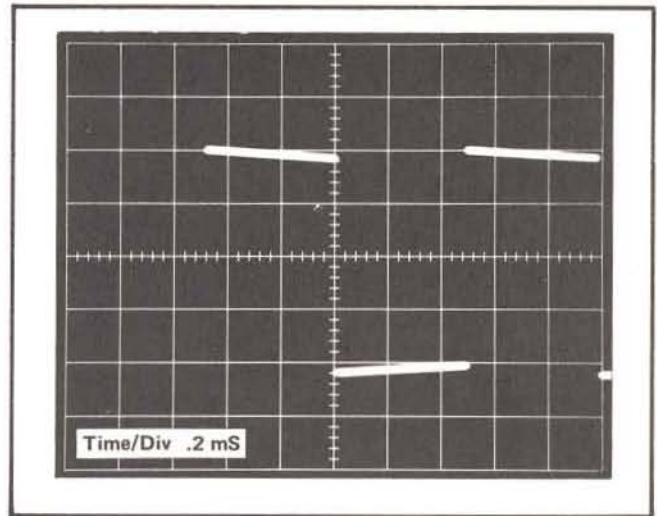

Fig. 5-5. LF Comp correctly adjusted using P6021 probe for 1 minor division of tilt in the first 500  $\mu$ s.
- ## 8. Check/Adjust Low Frequency Compensation ①
- b. **CHECK**—For 0.2 division of tilt in the first 500  $\mu$ s of the square wave. See Fig. 5-5.